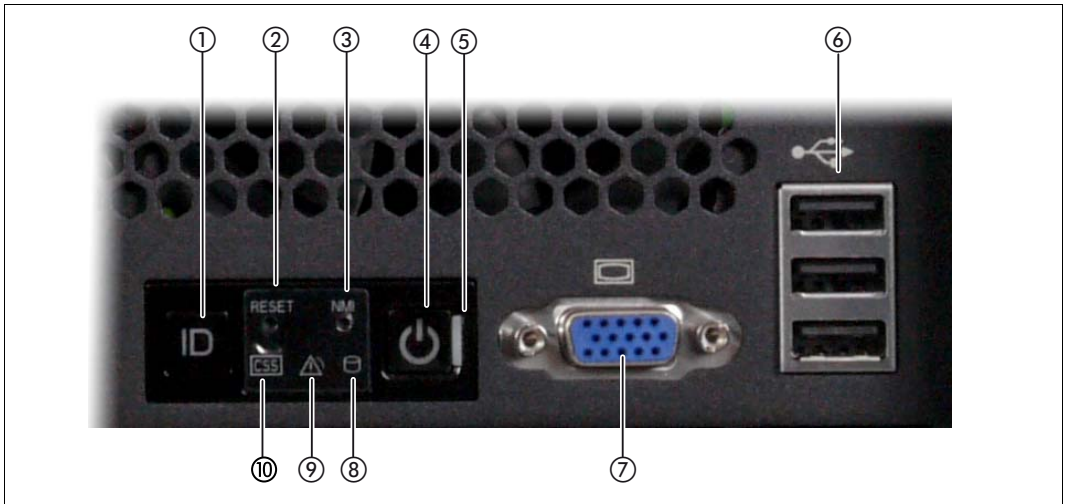

Figure 2: Front - Detailed view: Operating panel
Before the Server Unit is switched on, the status indicator lights up green (item 5 in figure 2 on page 10).
Before the Server Unit is switched off, the On/Off switch / status indicator lights up green, and after the Server Unit has been switched off it no longer lights up (item 4 in figure 2 on page 10).
The "Power cable connected" status indicator (item 5 in figure 2 on page 10) lights up green when the server is switched off but connected to the power supply (power cable connected).
4	Operating panel (for further details see <a href="#">figure 2 on page 10</a> )